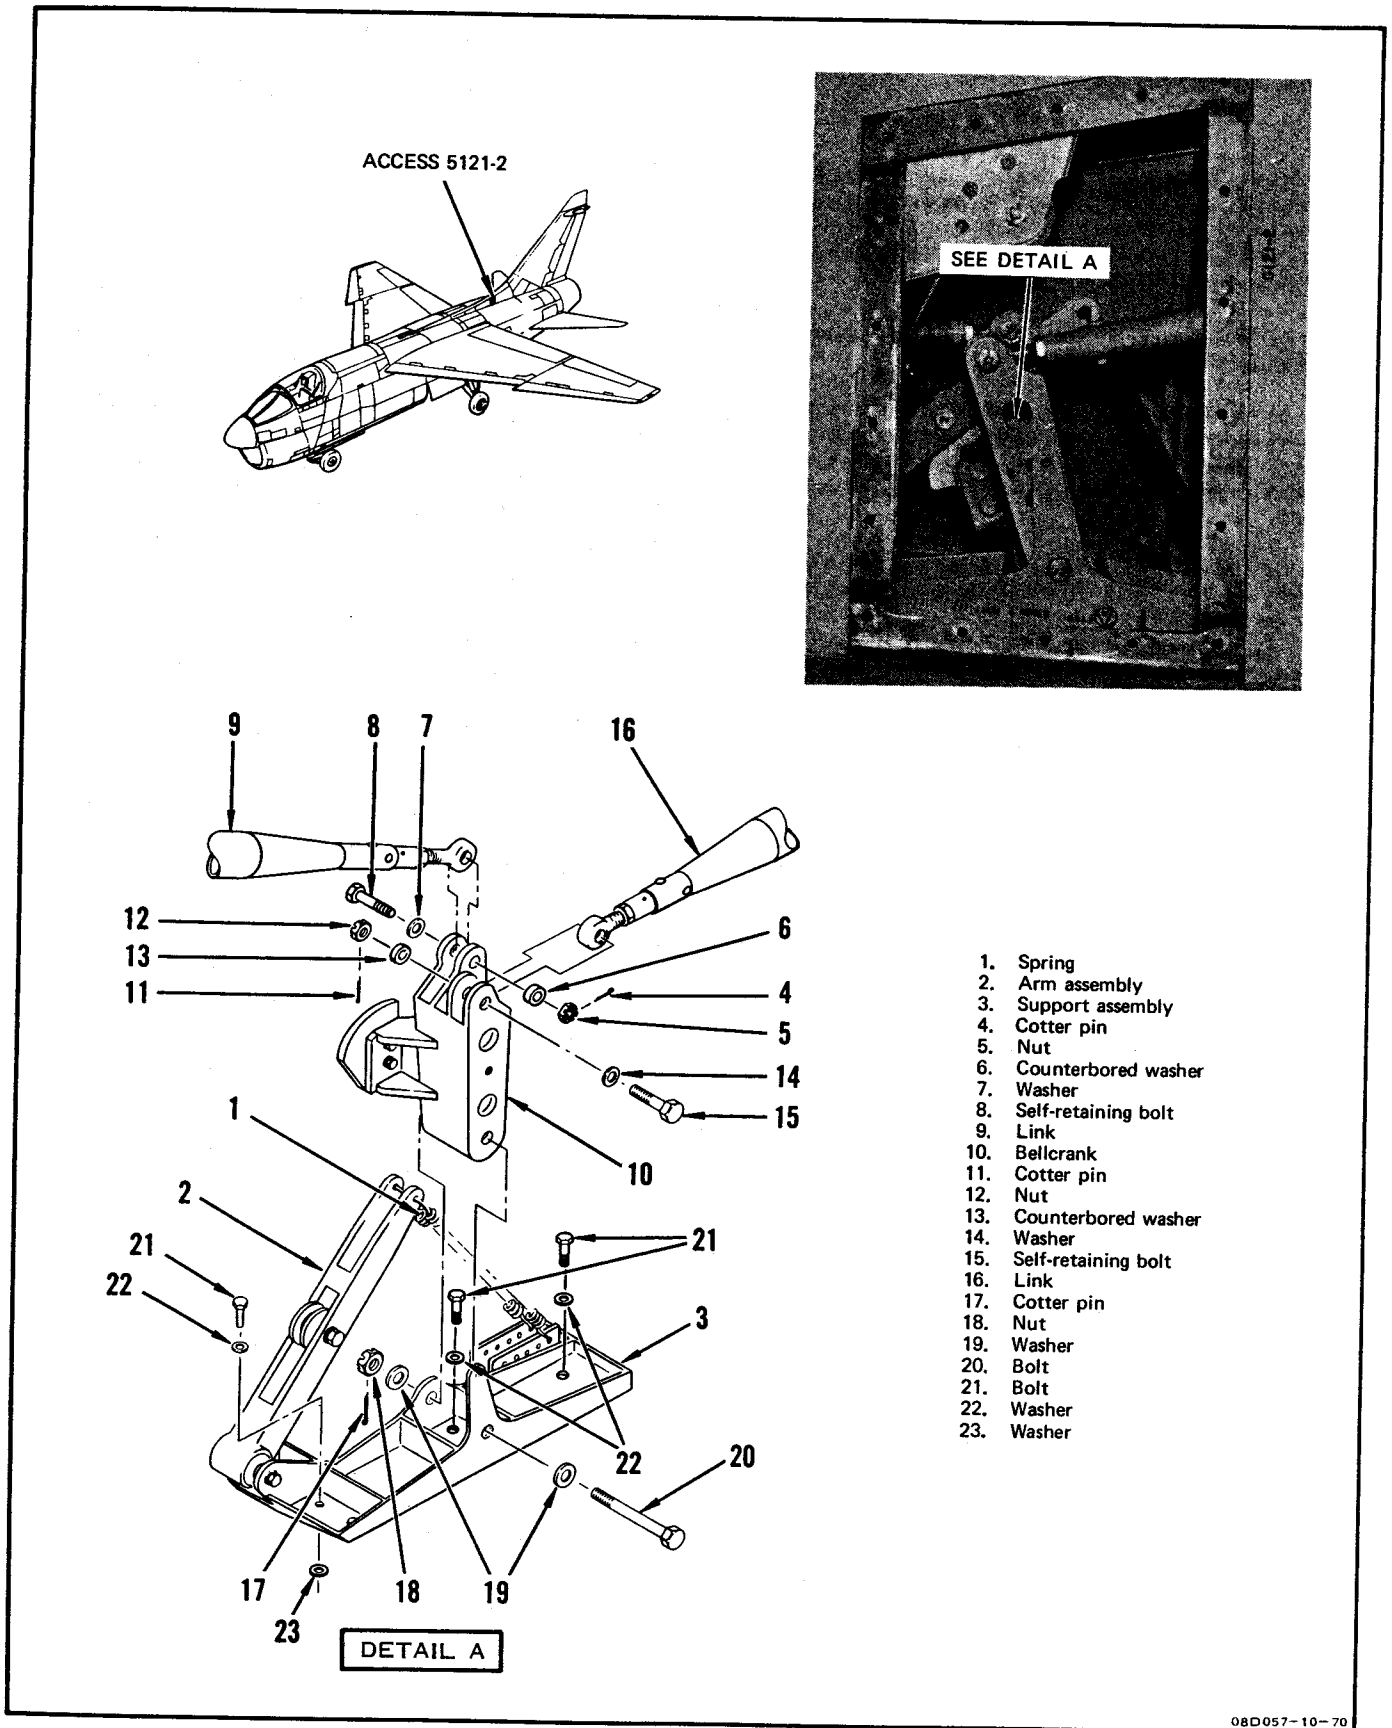

Figure 6-8. Aft Cam Mechanism Removal and Installation
**6-59. REMOVAL. (See figure 6-8.)**
c. Remove two springs (1) from arm assembly (2) and support assembly (3).
d. Remove cotter pin (4), nut (5), counterbored washer (6), washer (7), and self-retaining bolt (8) (paragraph 2-95) connecting link (9) to bellcrank (10).
e. Remove cotter pin (11), nut (12), counterbored washer (13), washer (14), and self-retaining bolt (15) (paragraph 2-95) connecting link (16) to bellcrank (10).
f. Remove cotter pin (17), nut (18), two washers (19), and bolt (20) securing bellcrank (10) to support assembly.
g. Remove six bolts (21) and six washers (22) securing support assembly to structure. Remove support assembly and two washers (23).
**6-60. INSTALLATION. (See figure 6-8.)**